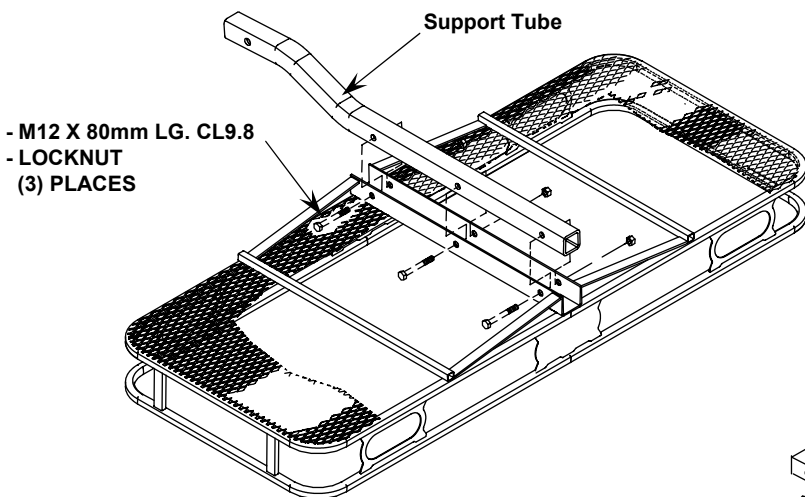

FIG. 1 ONE PIECE BASKET
- Place the support tube in between the two support rails on the bottom of the tray. Attach the tube to the bottom of the tray using the M12 X 80mm long hex bolts as shown in Figures 1 and 2.